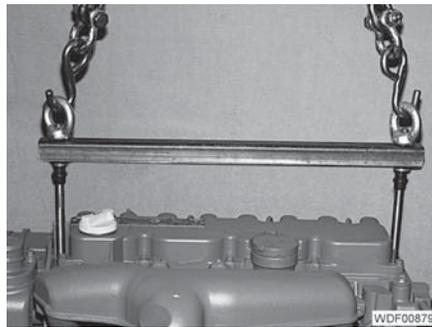

Fig. 35 Engine attachment
- Using suitable lifting gear, carefully install the engine from above and the rear (Fig. 35).